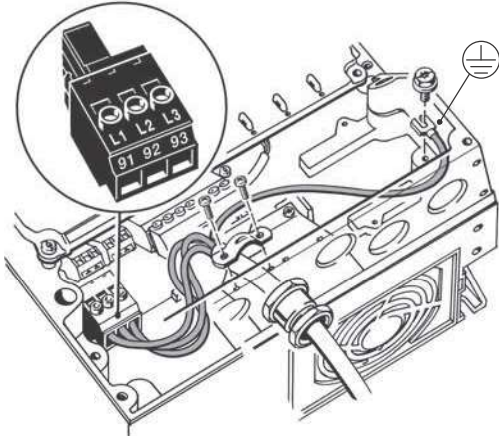

Fig. 21 Mains connection, A4 and A5
1. Connect the earth conductor to terminal 95 (PE). See fig. 21.